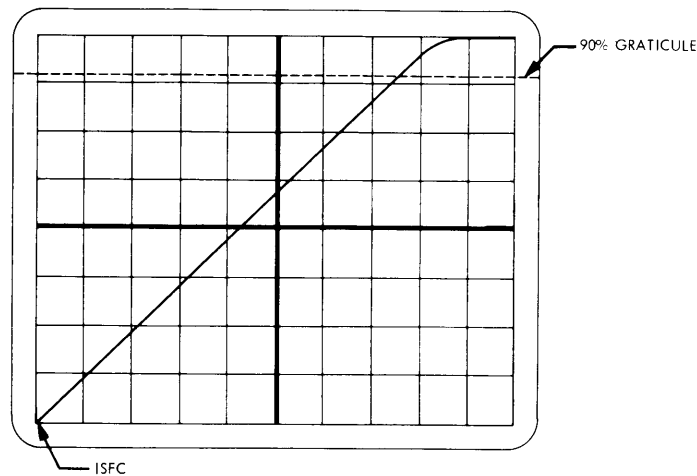

Figure 6-1. Ramp Timing (Example)
- (1) Adjust the oscilloscope variable vertical (volt/div) control to display 0 to 100 percent of the ramp waveform height over the full height of the oscilloscope graticule.
- (2) Adjust the trigger position to the extreme left line on the oscilloscope graticule.
- (3) With the time base set to 1.0 msec/div observe that the ramp crosses the 90 percent graticule of the oscilloscope, as shown in Figure 6-1.
- (4) Acceptable limits: